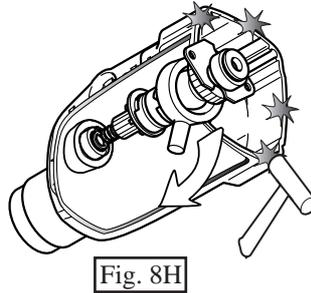

Fig. 8H
1. Referring to at page 8, disassemble the product in the order of Fig.4, Fig.4A and Fig.4B at page 8. And separate inner housing together with tool holder section and swash bearing section from gear housing as illustrated in Fig. 8C. Ball bearing 606ZZ can remain in gear housing in this stage. If so, refer to Fig. 8H at page 13.
6. Reassemble swash bearing section temporarily to gear housing, and hold gear housing as illustrated in Fig. 8H. So, swash bearing section tilts in the direction of arrow. Keeping the illustrated position, disassemble swash bearing section by striking the edge of gear housing with plastic hammer. So, ball bearing 606ZZ can be removed together with swash bearing section.